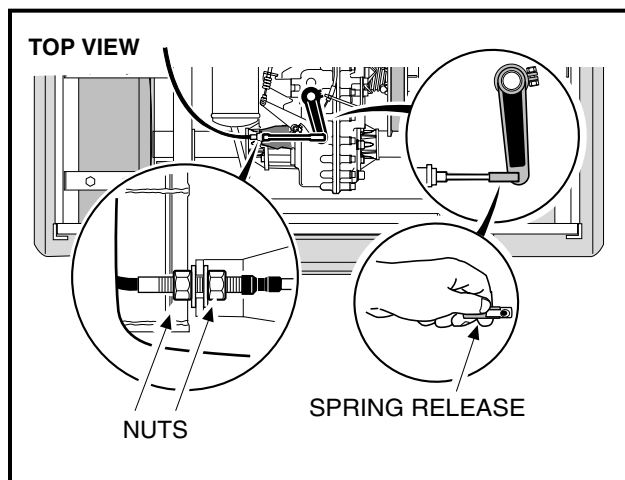

Figure 16-52 Connect Shifter Cable
- 26.5. Position the shifter cable in the shifter cable mounting bracket on the transaxle and tighten the mounting nuts to 22 ft-lb (29.8 N·m). Connect shifter cable rod end to the shifter arm (**Figure 16-52, Page 16-20**).